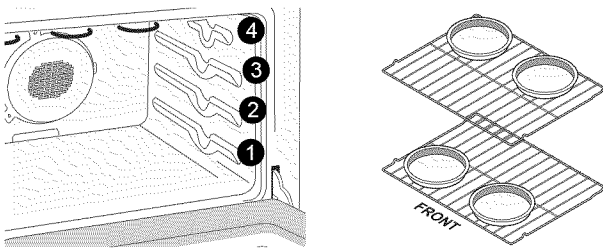

Figure 15: Rack positions and pan spacing recommendations
- When baking using two oven racks, position bakeware as shown in Figure 15. Place the top (flat) rack in position 3 and the bottom rack in position 1. Allow at least 2 inches (5 cm) of space between bakeware for proper air circulation and use the offset rack (if available) in the bottom position.